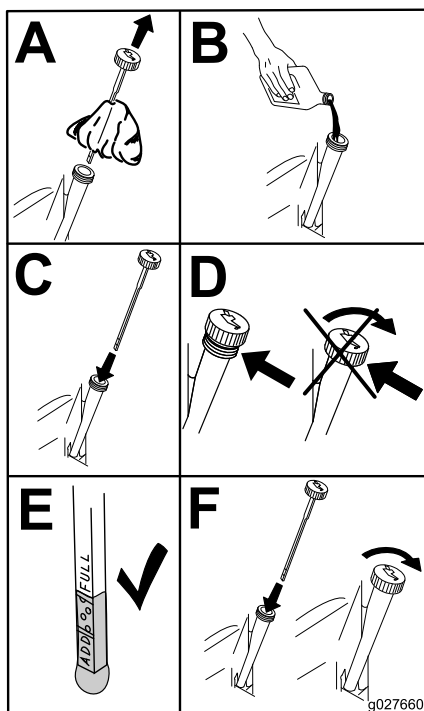

Figure 51
- Slowly pour approximately 80% of the specified oil into the filler tube and slowly add the additional oil to bring it to the **Full** mark (Figure 51).